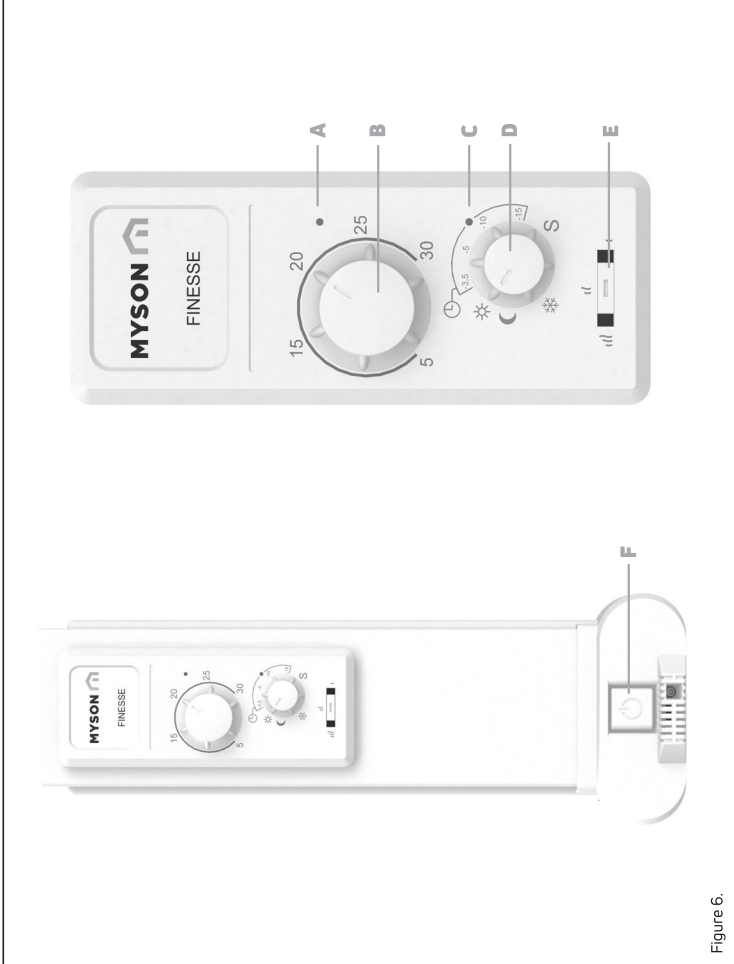

Figure 6.
- Select one of the following operating modes using dial D (figure 6):
- The On/Off button is located at the bottom of the control side of the radiator (F, figure 6). The radiator should only be switched "on" when it is correctly installed and secured to the wall brackets. When the radiator is switched on, LED (C) will flash orange, and then LED (A) will turn green or red depending upon the heating demand.
- The switch (E, figure 6) at the bottom of the control panel can be used to limit the output (surface temperature) of the heating element in the front panel.
- Two LED indicators (A and C, figure 6) indicate the working mode of the radiator.
- To activate the Key Lock function, slide the switch (E, figure 6), to the left **II**, then to the right **I**, then back to the left **II**. Repeat this sequence 3 times.